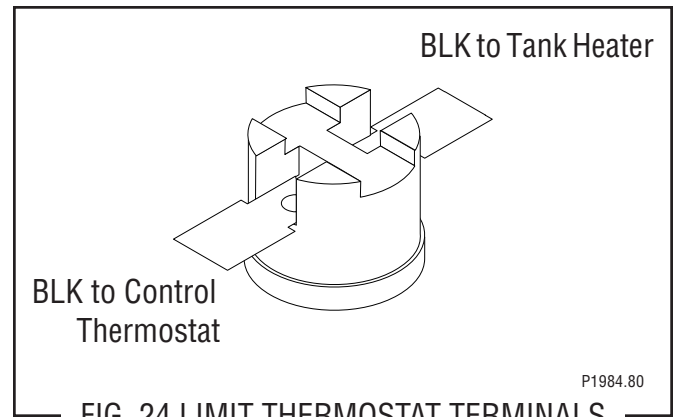

FIG. 24 LIMIT THERMOSTAT TERMINALS
4. Refer to Fig. 24 when reconnecting the wires.